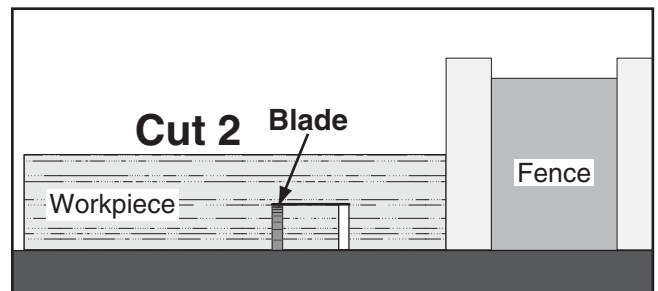

Figure 89. Second cut for a single blade dado.
8. Repeat the cutting operation on the other side of the dado channel, as shown in **Figure 89**.